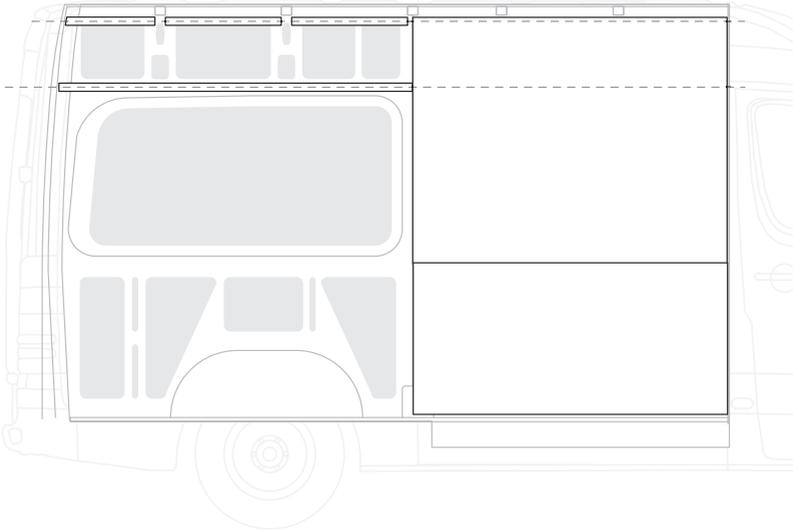

figure 1
**1b.** When using horizontal slats as structural support position them as suggested in figure 1. Alternatively you can use a metal bracket for a stronger hold.